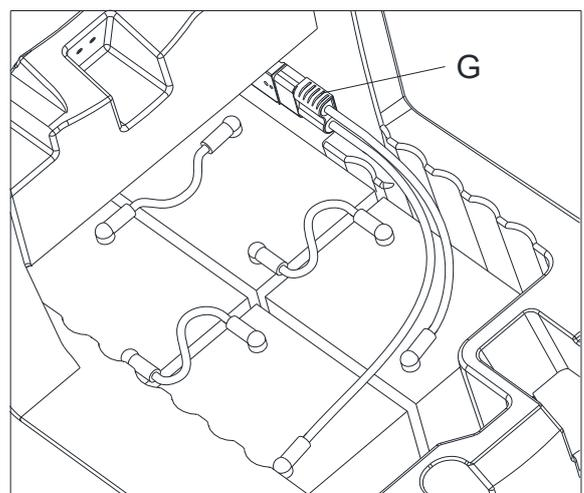

Figure 10
2. Disconnect the battery connector (G, Figure10).